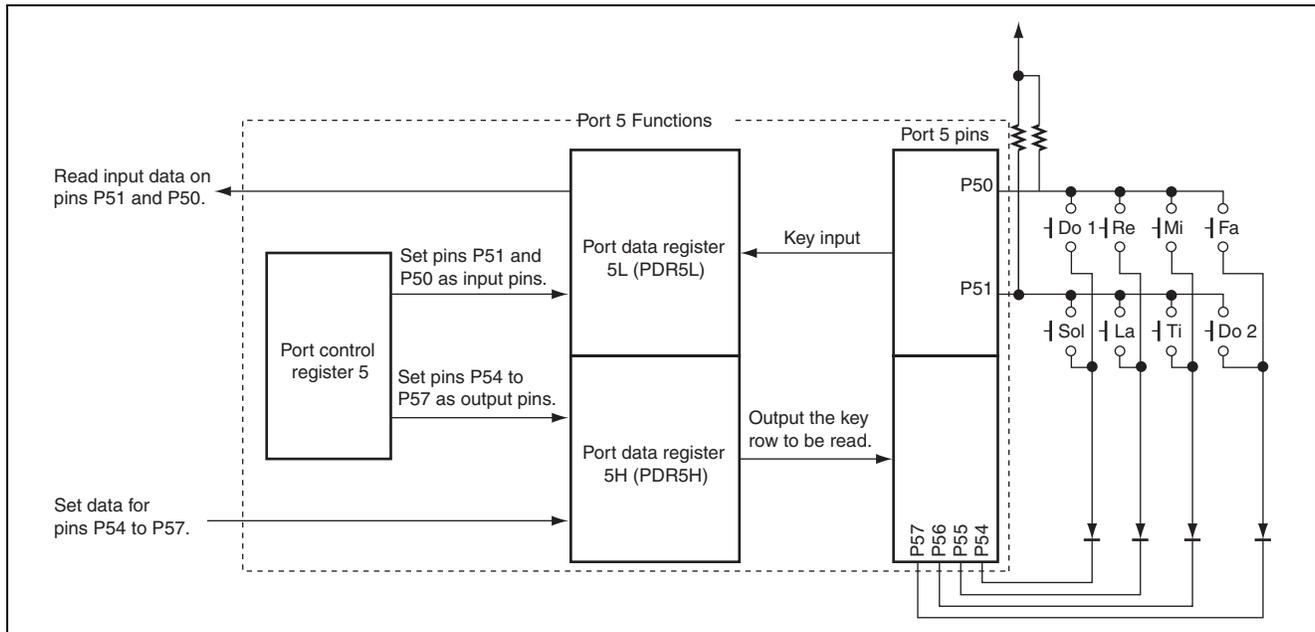

Figure 3.3 Block Diagram of Key Input Circuit on Port 5
A. Figure 3.3 shows the block diagram of the key input circuit connected to port 5.